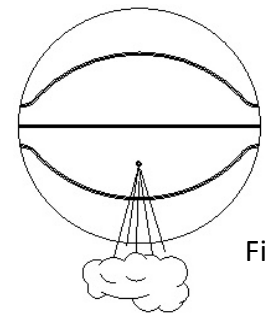

Fig. 2
Step 6: Using a ball inflation needle, carefully let the air out of the basketball that you wish to mount. (Fig. 2)